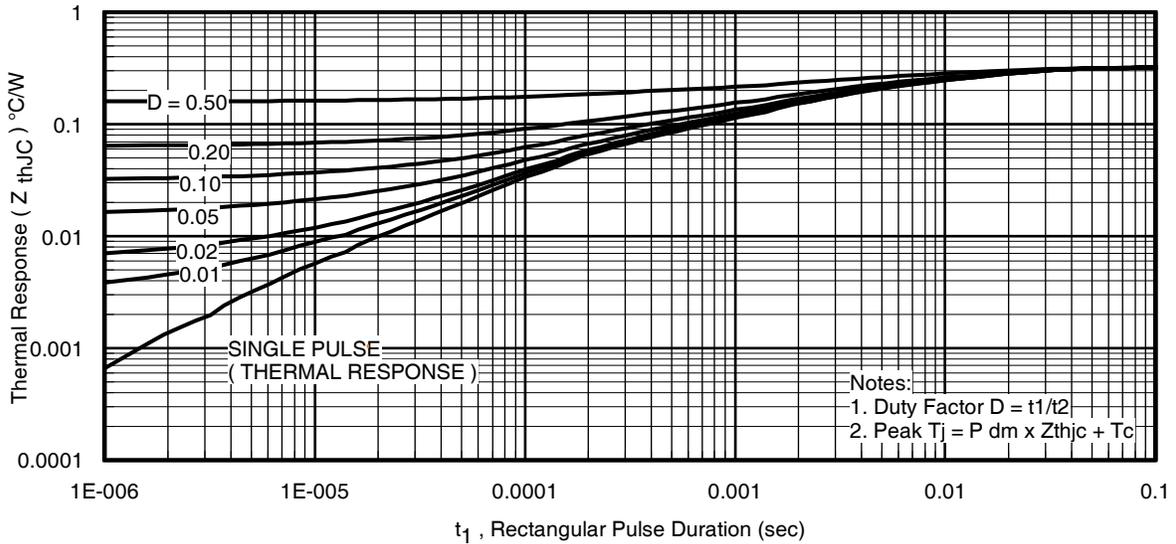

Fig 11. Maximum Effective Transient Thermal Impedance, Junction-to-Case
- ① Repetitive rating; pulse width limited by max. junction temperature. (See fig. 11).
- ② Starting $T_J = 25^\circ\text{C}$, $L = 0.25\text{mH}$
$Z_{thJC}(D, t_{av})$ = Transient thermal resistance, see figure 11)